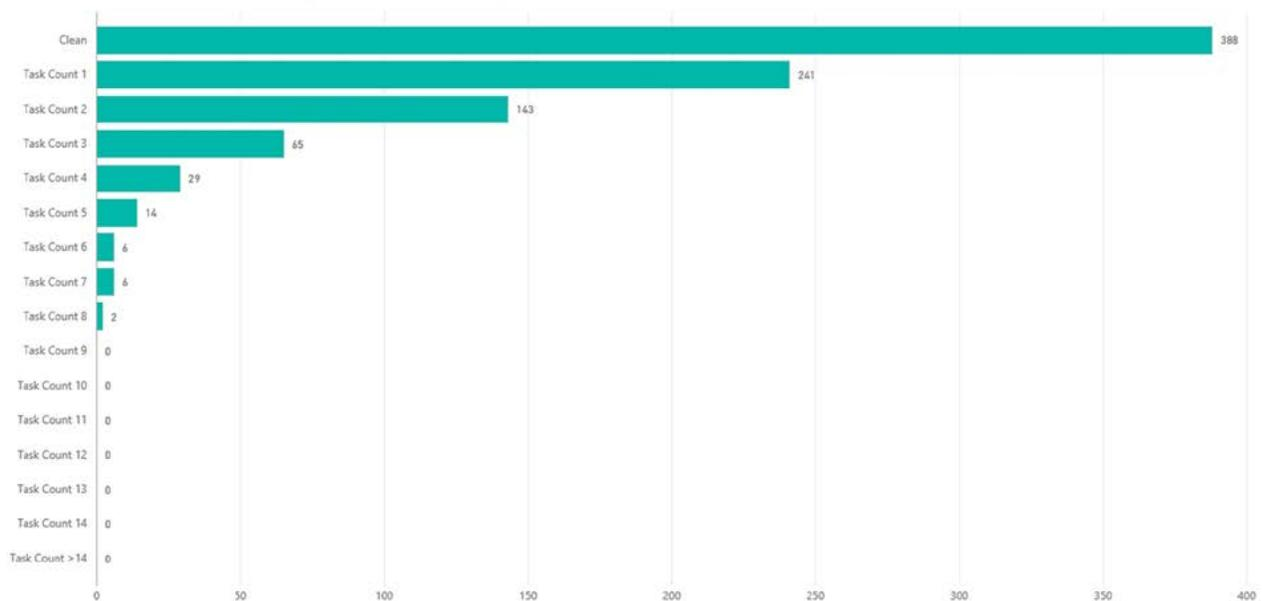

Figure 2. Representation of the outstanding number of tasks each patient needs to have resolved to be declared “clean”
- Identify and address the patients that have only one outstanding task first, to reduce the number of remaining patients to prepare for DBL (Figure 2)